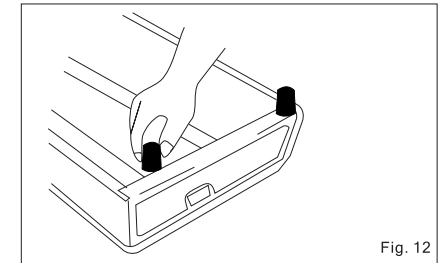

Fig. 12
- Attach the rubber legs to the cooker by turning the cooker upside down and screwing them into the openings on the cooker bottom (Fig. 12).